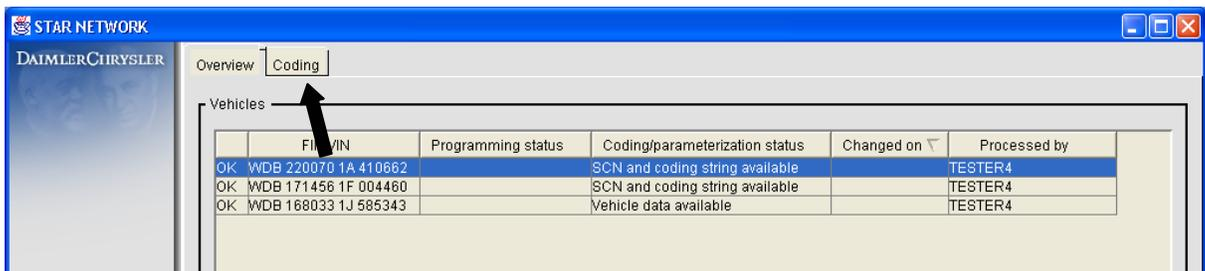

Figure 8
1. Click on <Coding> button on the top of the window (Figure 8).